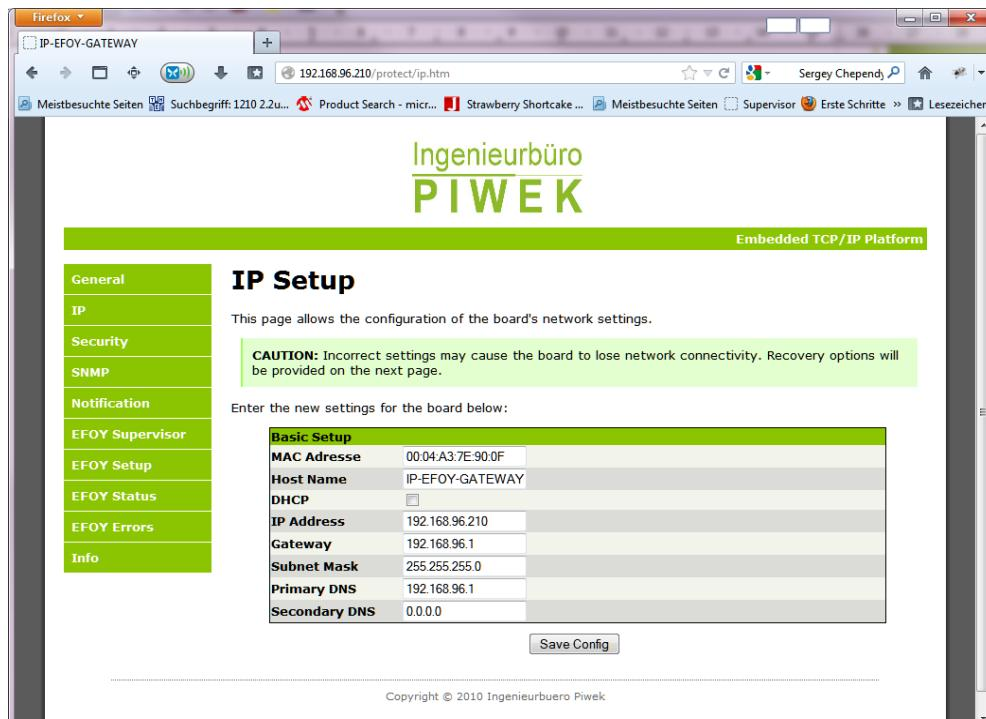

Figure 7: IP-Konfiguration IP-EFOY-GATEWAY
4. Open the browser and enter the default IP address of the IP-EFOY-GATEWAY (see Figure 7).
6. Afterwards choose new static IP-Configuration for your given network (see Figure 7). If you set the “**DHCP**” check box, the IP-Configuration may be accomplished by a DHCP server in the local network automatically.